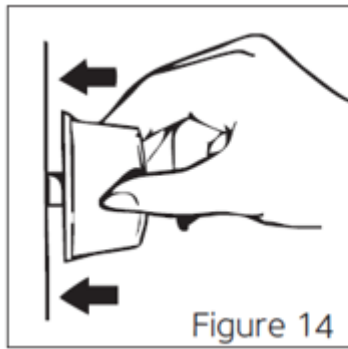
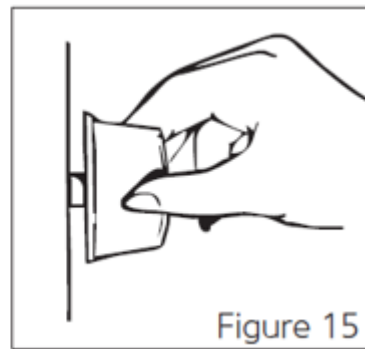

Figure 14
Figure 15
3. To use the cooker burner of your preference, first press the knob in the direction of the arrow and wait 5 seconds for air to escape from the pipes (see figure 14).
Auto ignition with a knob: you can ignite the cooker burner of your preference by pressing the knob in the direction of the arrow (See figure 14) and rotating the knob (See figure 15).